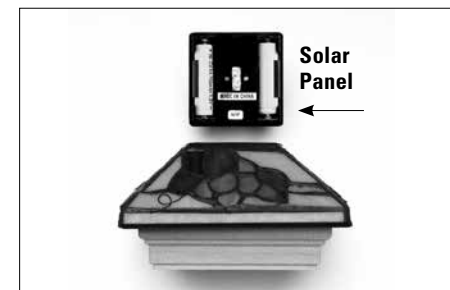

Figure 3
- 1 Remove the solar panel by lifting it straight up from the top of the cap (Figure 3).